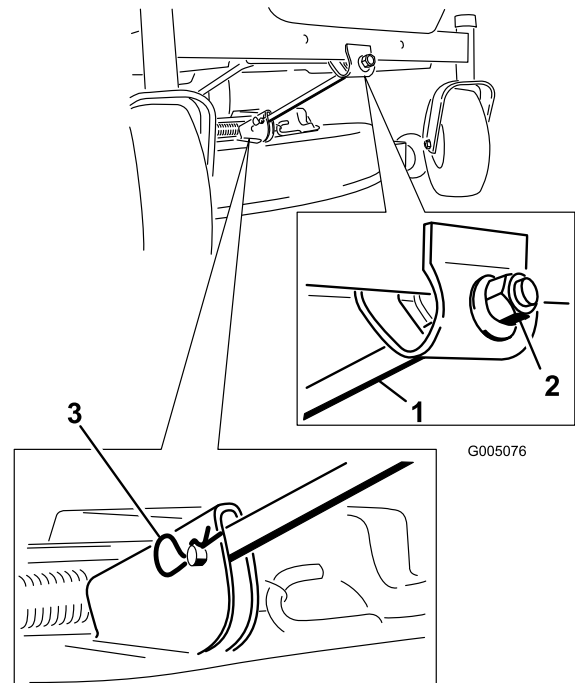

Figure 43
4. Remove the hairpin cotter and clevis pin from the front support rod (Figure 43). Carefully lower the front of the mower deck to the ground.
- 6. Attach the front support rod to the mower deck with the clevis pin and hairpin cotter (Figure 43).